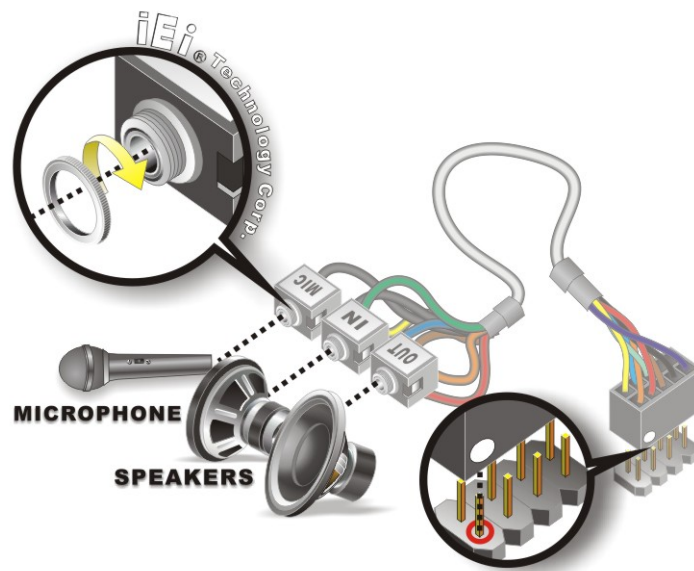

Figure 5-11: IDE Cable Connection
Step 2: Align pin 1. Align pin 1 on the onboard connector with pin 1 on the audio kit connector. Pin 1 on the audio kit connector is indicated with a white dot. See **Figure 5-11**.